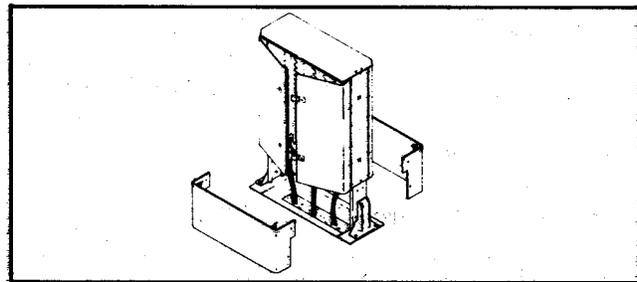

Fig. 18i
- (4) Retighten the bolts which secure the support legs to the mounting ring.
- (5) Loosen the four door bolts and remove the cabinet skirt. (See Fig. 18i.)